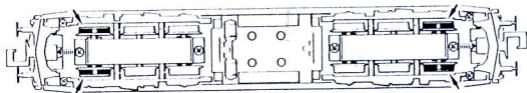

Fig. 6
4. Carbon Brush Changing: First remove loco body (fig. 2), and then the motor (fig. 6).